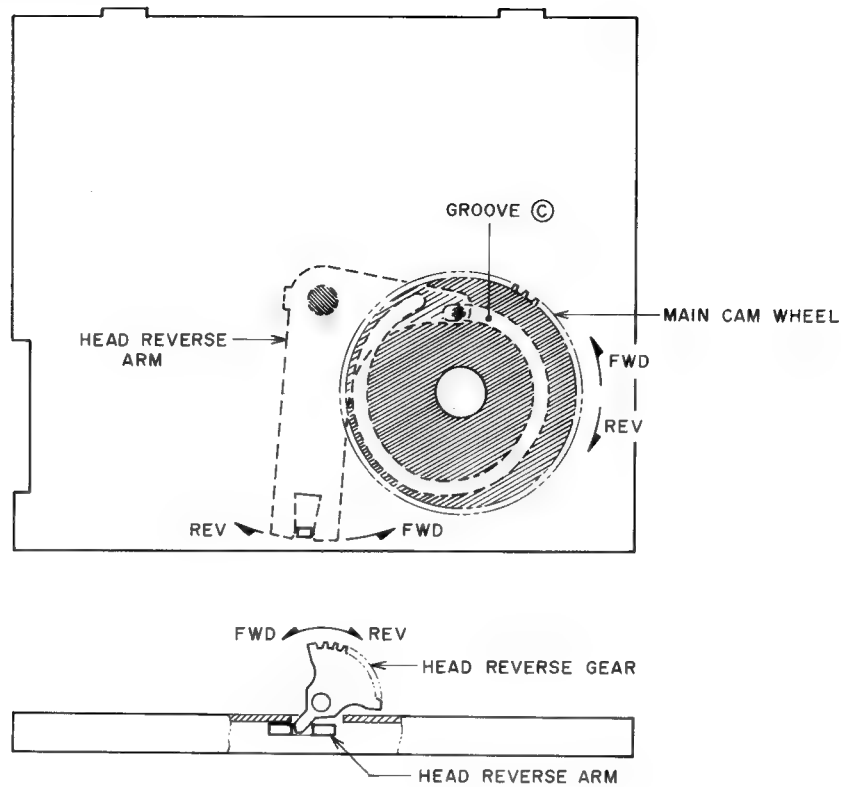

Fig. 5-3
3) Head Rotation (Refer to Fig. 5-3)